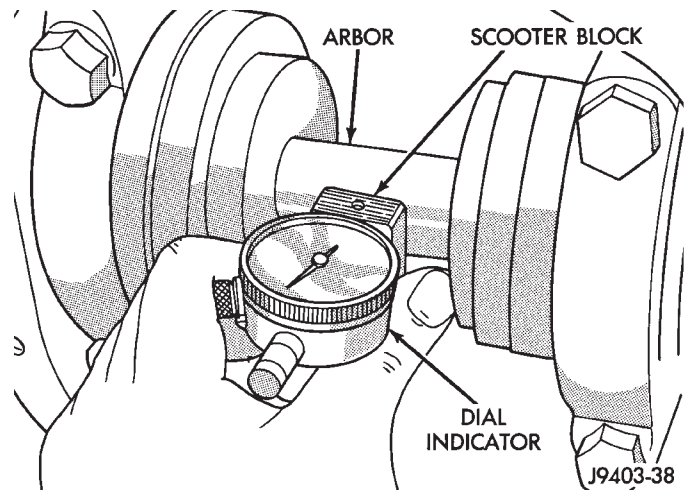

Fig. 28 Pinion Gear Depth Measurement
(3) Firmly place Scooter Block and Dial Indicator on pinion height block tool and zero the dial indicator pointer.
(4) Slide the Scooter Block across the arbor while observing indicator (Fig. 28). Record the longest travel distance, whether inward (-) or outward (+), indicated by the pointer.